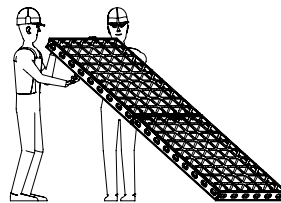
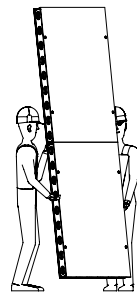

Fig. B1.02
Fig. B1.02a
3. Two persons are required to transport the panel unit to the place of operation (Fig. B1.02 + Fig. B1.02a).